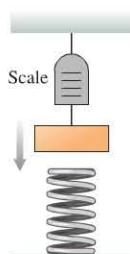

FIGURE P8.45
45. II A 5.0 kg mass hanging from a spring scale is slowly lowered onto a vertical spring, as shown in Figure P8.45. The scale reads in newtons.